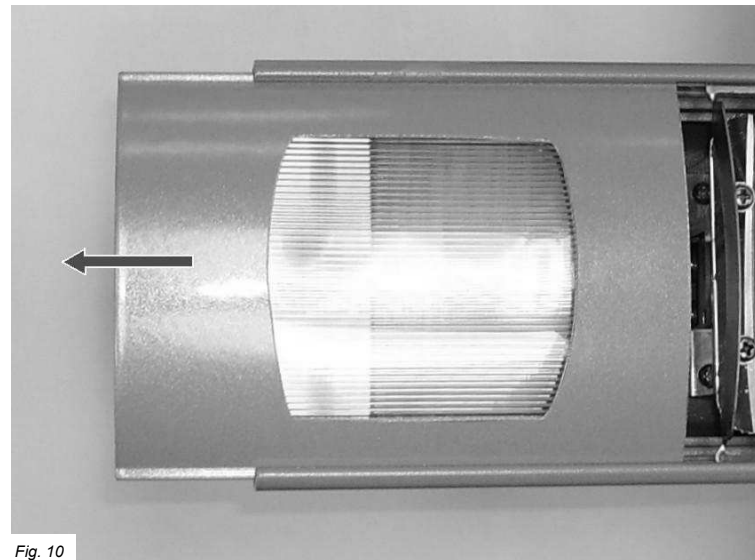

Fig. 10
4. Slide out the side cover(s) to reveal the bulb(s) as shown in Fig. 10.